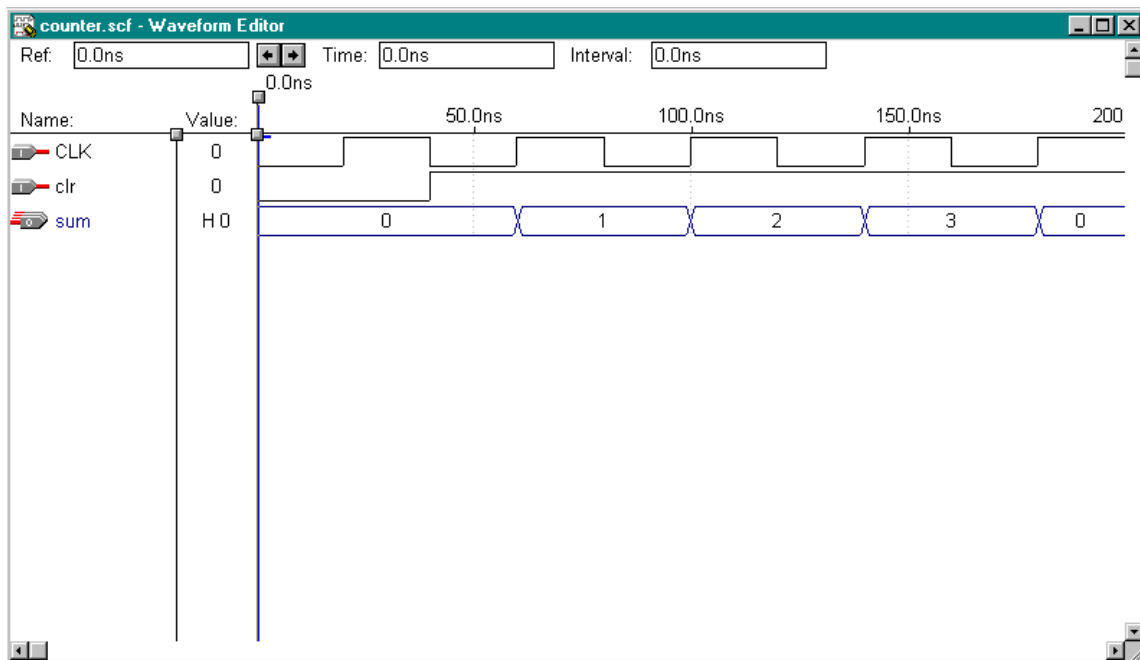

Figure 4-2b.
5. Check to see if you get the same results shown in Figure 4-2b.